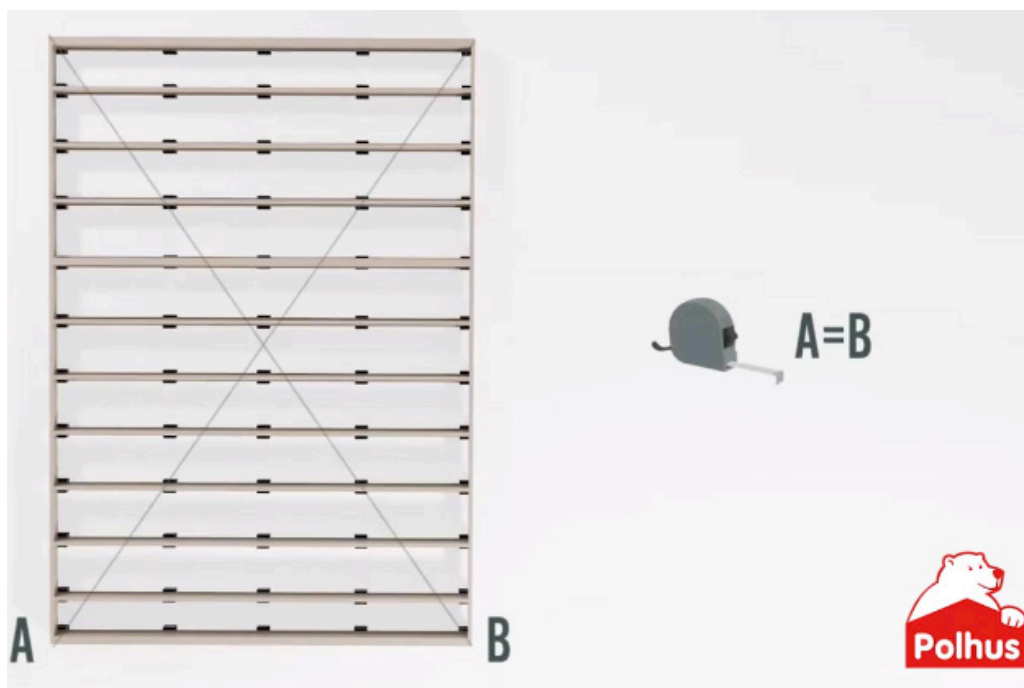

Figure 1. Measure the diagonal.
- Check that the door openings are perpendicular by measuring the diagonal before installing the sliding doors (see fig. 1). Also check that the different sides are level/plumb using a spirit level.